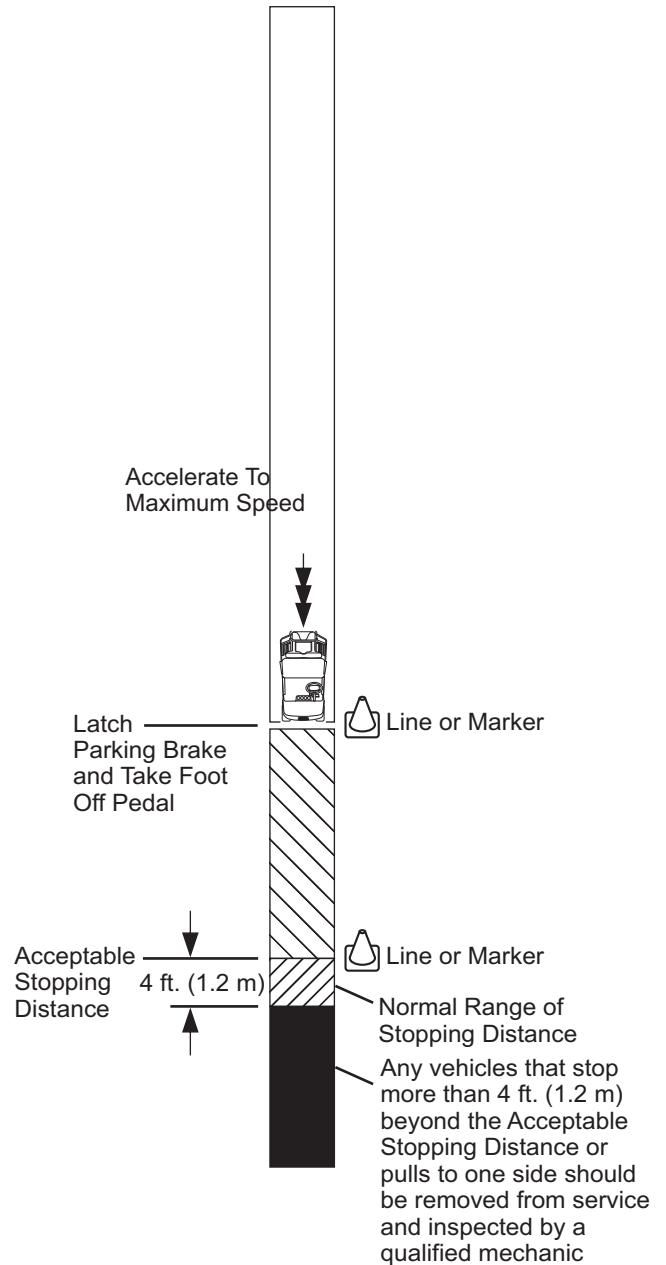

Fig. 12 Periodic Brake Performance Test
The purpose of this test is to compare the braking performance of new or "known to be good" vehicles or to an established acceptable stopping distance (Ref Fig. 12).
1. Drive the vehicle at maximum speed on a flat, dry, clean, paved surface (Ref Fig. 12).